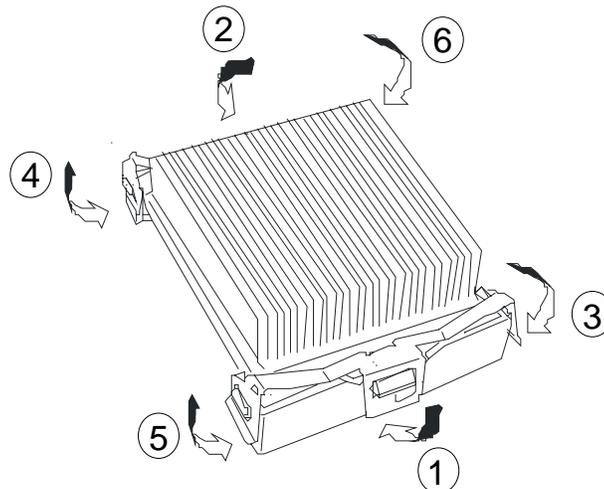

Figure 4-12. Securing the Processor Heatsink
- Place the heat sink clip on the center tab of the retention module and rotate the clip towards the heat sink to engage the center tab (1). Repeat this step with the second clip (2). See Figure 4-12.
- While ensuring the heat sink is level and secure with one hand, snap one end of the clip down over the corresponding tab on the retention module (3). Then snap the opposite corner clip (4). Snap the remaining end of the clips down over the corresponding tabs (5) (6). Be sure the clip is adequately engaged with the tab. Ensure the heat sink is absolutely level.